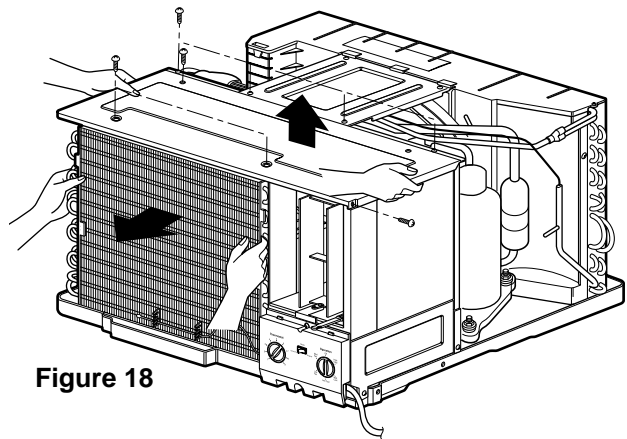

Figure 18
7. Re-install the components by referring to notes. (See Fig. 18)